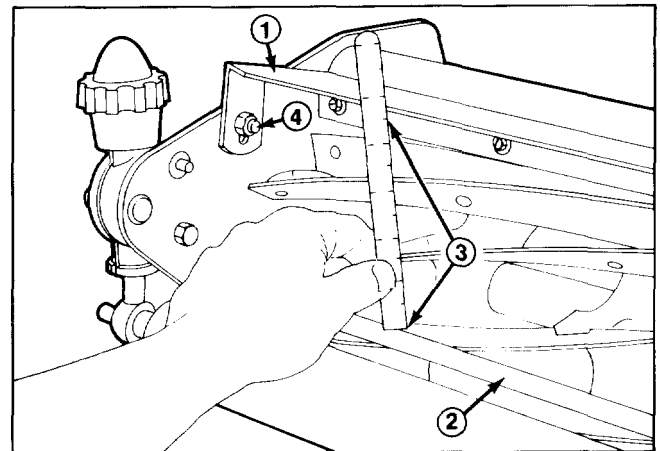

Figure 8
1. Set cutting unit in normal cutting position and measure distance from top of front crossbar to shield at each end of cutting unit (Fig. 8).
2. Height of shield from crossbar for normal cutting conditions should be 4-3/4 inches. Loosen capscrews and nuts securing shield to each sideplate, adjust shield to correct height and tighten fasteners (Fig. 8).